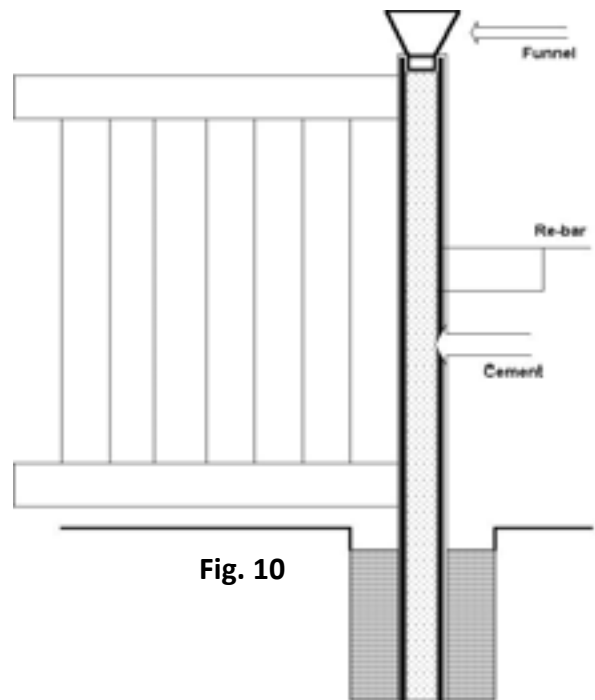

Fig. 10
**Step 3.** Using a large funnel, fill the post with concrete (Fig. 10). Tap lightly on the sides of the post to help void air pockets in the concrete. Repeat these steps until all posts are set.